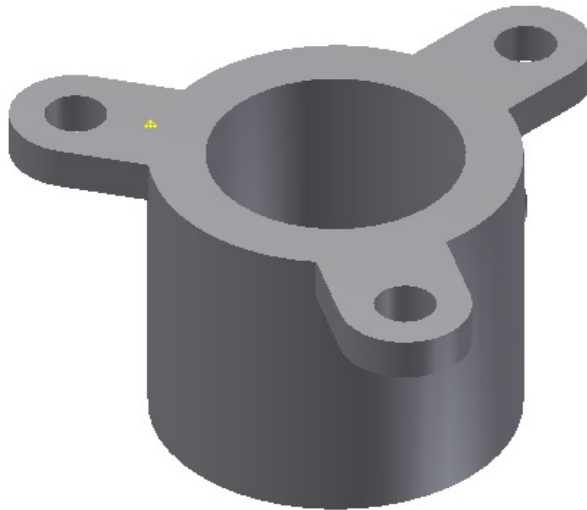

Figure 19-66 Point specified for gate location
- c. Apply material to the part and specify gate locations, refer to Figures 19-66 and 19-67.
3. Select a point on the part, as shown in Figure 19-66 and then choose the **Apply** button from the dialog box.